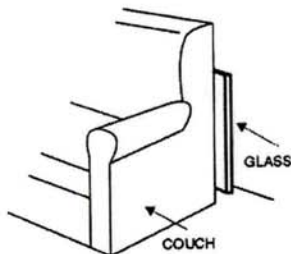

FIGURE 11
3. Lift glass out and store in a safe place FIGURE 11.